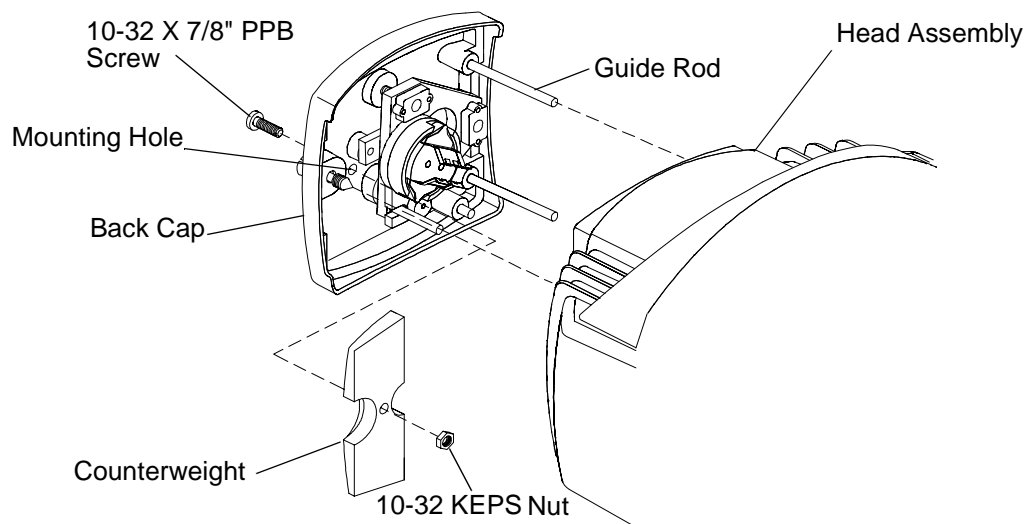

Figure 2-10: Removing Counterweight
Step 6. Remove counterweight **Figure 2-10**.
Step 11. If necessary, install counterweight **Figure 2-10**.